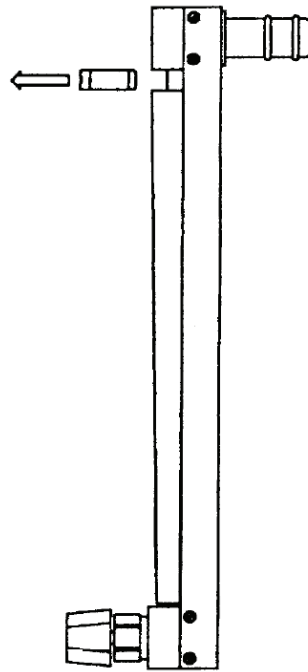

FIG. 2
3. Pull black retaining clip forward to remove (Fig. 2).